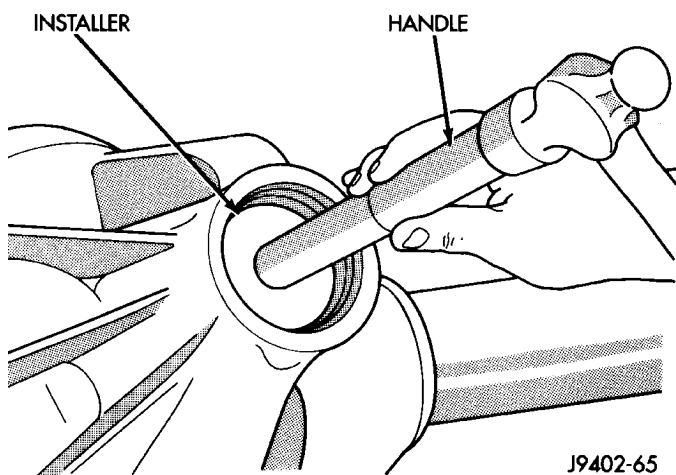

Fig. 44 Pinion Front Bearing Cup Installation
(2) Apply Mopar® Door Ease stick lubricant to outside surface of bearing cup. Install the pinion front bearing cup with Installer D-129 and Handle C-4171 (Fig. 44).